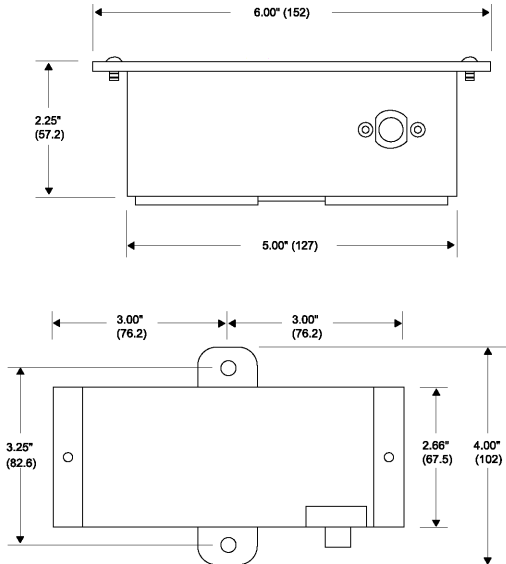

Figure 1. Pressure Transducer Dimensions
- Orient the pressure transducer so that the 1/8-inch NPT connection points downward. See Figure 1.